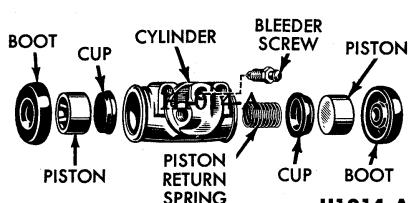

FIG. 22—Double Servo Brake Cylinder
from the end(s) of the brake cylinder. Remove the piston(s), cup(s), and piston return spring from the cylinder (Fig. 22 or 23).
4. Install the bleeder screw (Fig. 22 or 23) in the brake cylinder.